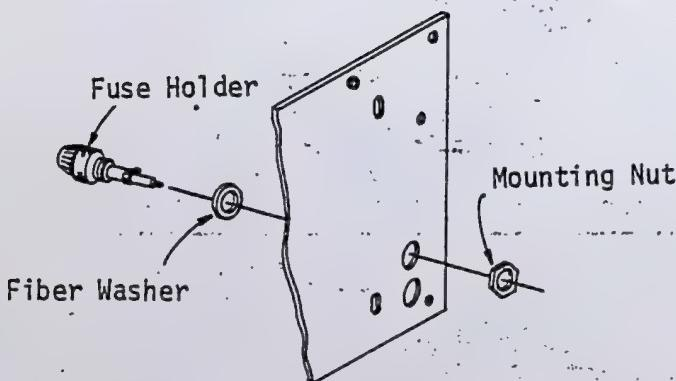

Figure 5-53. Fuse Holder Installation
(Figure 5-53)**
1. Secure the fuse holder (Bag 2) into the hole provided on the back panel using a fiber washer and mounting nut as shown in Figure 5-53.